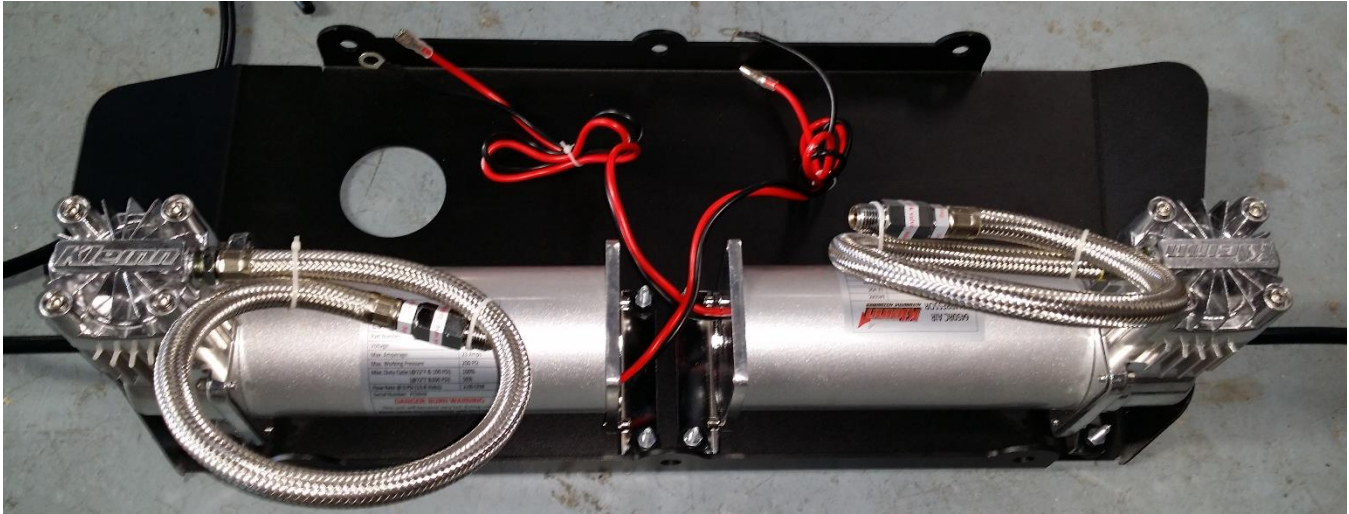

Figure 3 - Compressor Mounted onto JK-101 **JK6450 Upgrade Shown
9.2.1. Using hardware #9, #15, & #21 mount Compressor(s) to JK-101 with head(s) of Compressor(s) facing outwards, as shown in Figure 3 below.